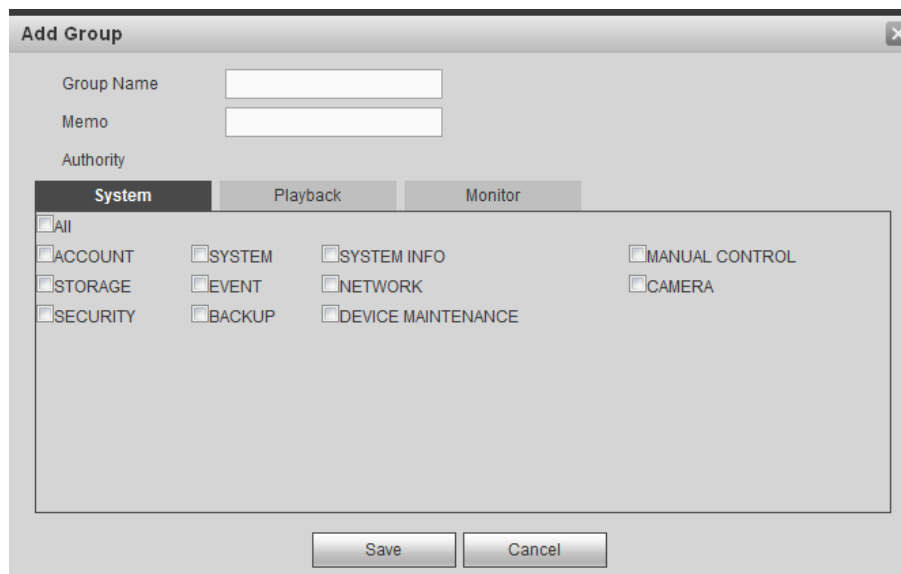

Figure 5-135
Step 1 Click Add group button. Enter add group interface. See Figure 5-135.